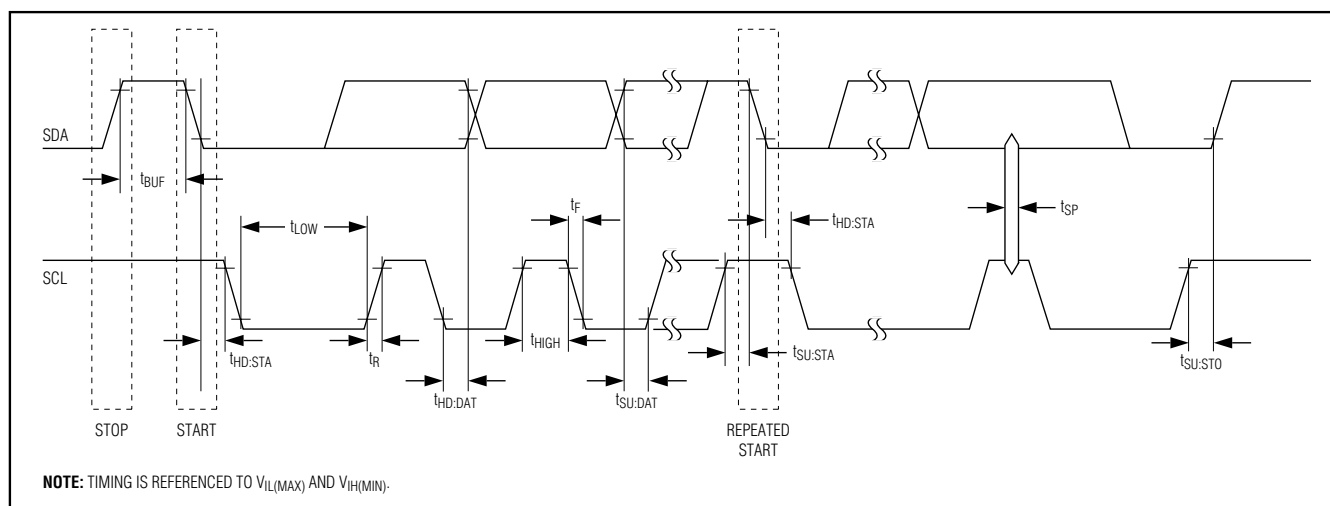

Figure 1. Data Transfer on I2C Serial Bus
**AC ELECTRICAL CHARACTERISTICS**(VCC = VCC MIN to VCC MAX, TA = -40°C to +85°C, unless otherwise noted.) (Notes 1, 14, Figure 1)